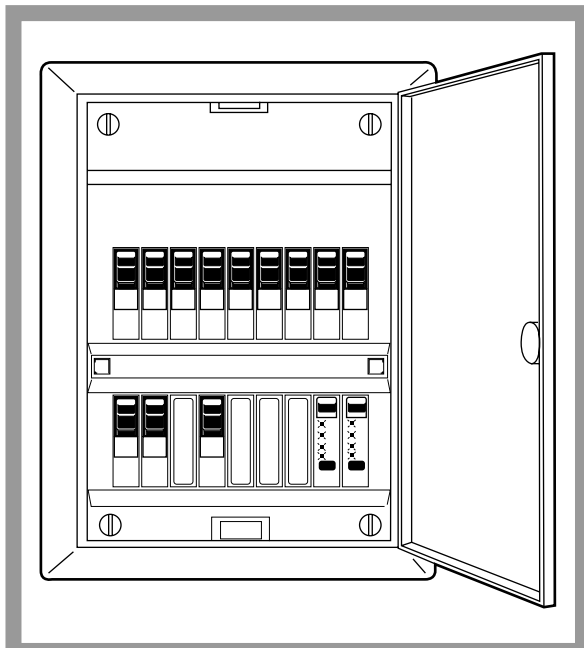
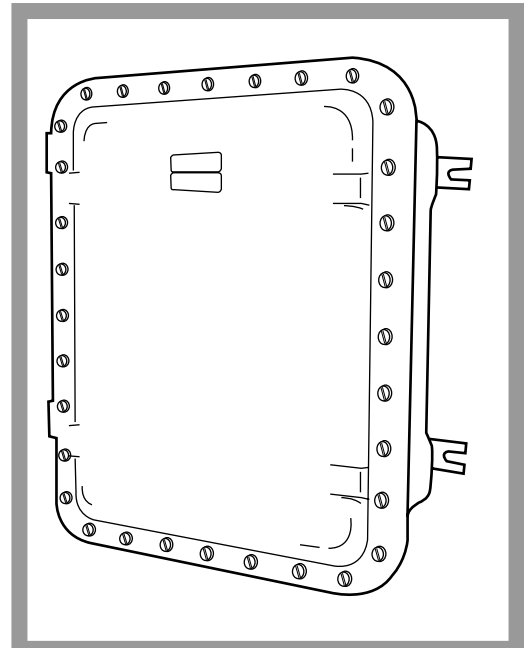

Figure 31
Figure 32
5. Keep access to **electrical panels** (see Figure 31 below) and **junction boxes** clear (see Figure 32 below).